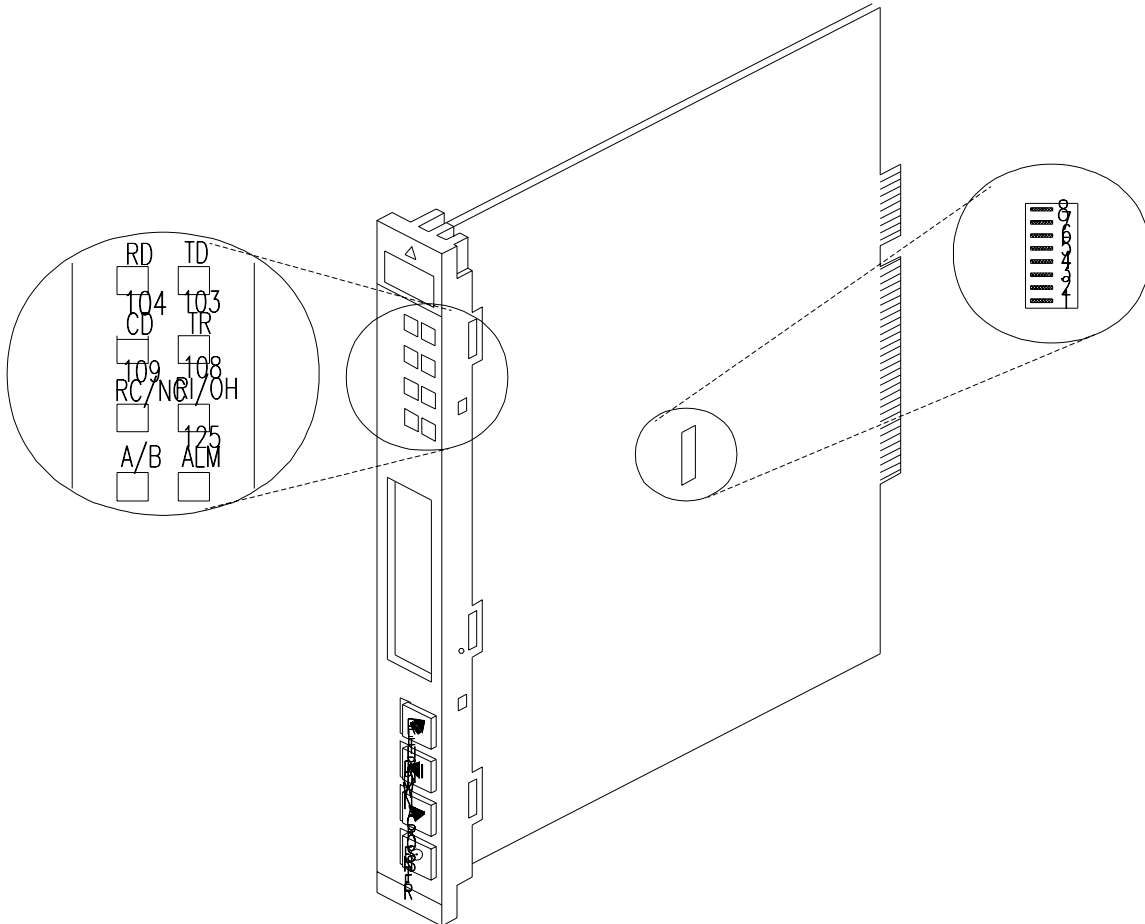

Figure 2-2. Dedicated Port (Rack-Mounted) Modem, Front Panel and DIP Switch Location
7. See figure 2-2. Check/set the DIP switches on the new/relocated modem as follows